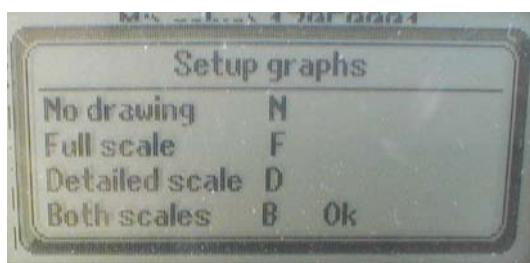

Fig. 28, Graph options
- Select *Graphs* and press *Enter*. The Setup graphs display will appear. Fig. 28.